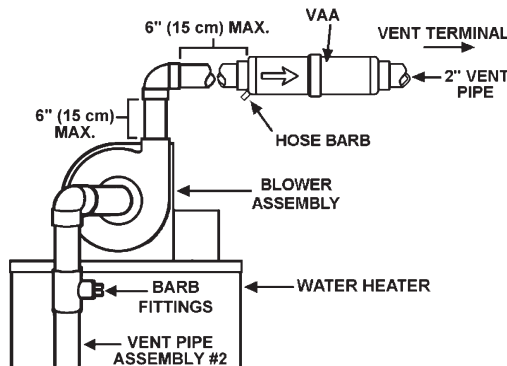

FIGURE 23: Typical Horizontal Installation
1. The VAA is designed to accept two inch PVC pipe into the adapters on both ends. The VAA must be installed with the condensate hose barb pointing downward. See Figure 23. The VAA has an embossed flow arrow to reflect proper orientation. For optimum performance, install VAA as close as possible to the blower assembly.